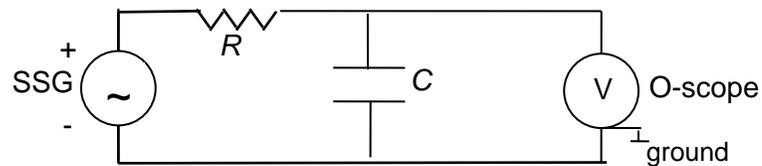

FIGURE 4
a) Build the circuit shown in Fig. 4 below where R is supplied by a decade resistance box set at $1000\ \Omega$, and C is supplied by a decade capacitance box set at $2\ \mu\text{F}$.